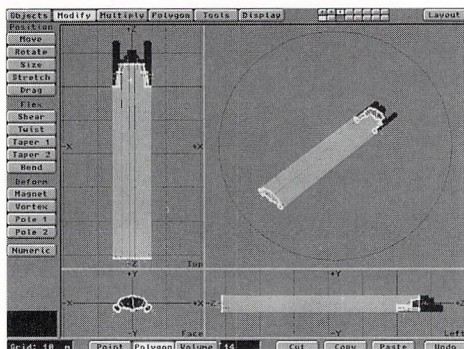

Figure 11: The extruded shadow edge
- Select the polygons at both ends of the shadow edge object and delete them, leaving your ship with a nice, hollow shadow edge. (Notice in Figure 11 that I'm a neat freak and had to collapse the far end of the shadow edge. This step isn't necessary.) Name the surface "Shipshadow" and Export your object to Layout.